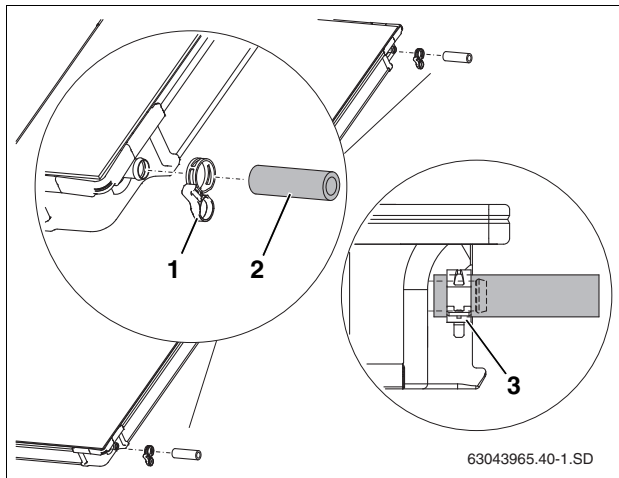

Fig. 42 Pre-assembling the connection on the second collector
- ▶ Push 4" (95 mm) solar hoses (Fig. 42, [2]) onto the right-hand connections on the second and any subsequent collector.
- ▶ Push the hose clamp (Fig. 42, [1]) over the solar hose (a second clamp will enable the other collector to be connected later).
- ▶ Once the hose clamp is sitting correctly, pull the locking ring to secure the connection (Fig. 42, [3]).